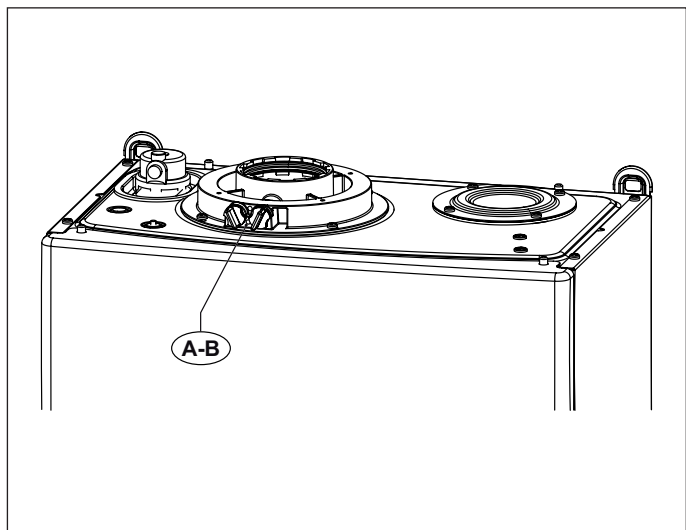
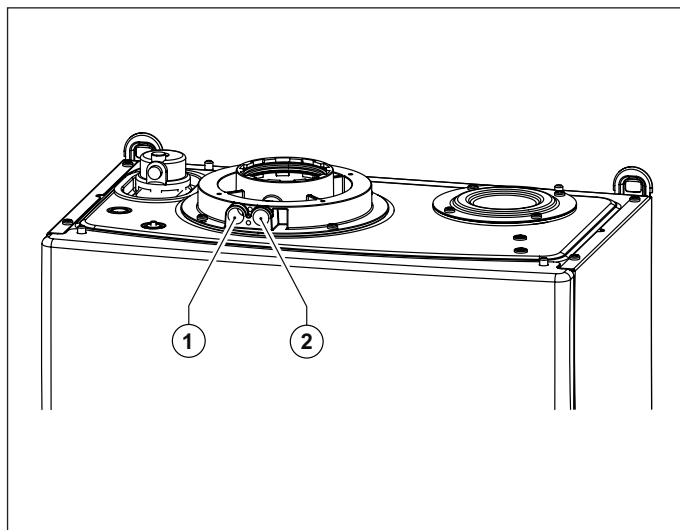

Fig. 14 Plugs position
Fig. 15 Hole position
The boiler is equipped with a tower allowing for air intake/flue gas venting pipe connection (see Fig. 14 Plugs position and Fig. 15 Hole position).
The tower is designed with two pre-arranged openings directly accessing air and flue gas ducts (see Fig. 15 Hole position).
Remove caps **A** and **B** from the pre-arranged openings on the tower, before starting combustion checking procedure (see Fig. 14 Plugs position).
- assess combustion air from opening **1** (see Fig. 15 Hole position).
- assess flue gas temperature and CO₂ from opening **2** (see Fig. 15 Hole position).